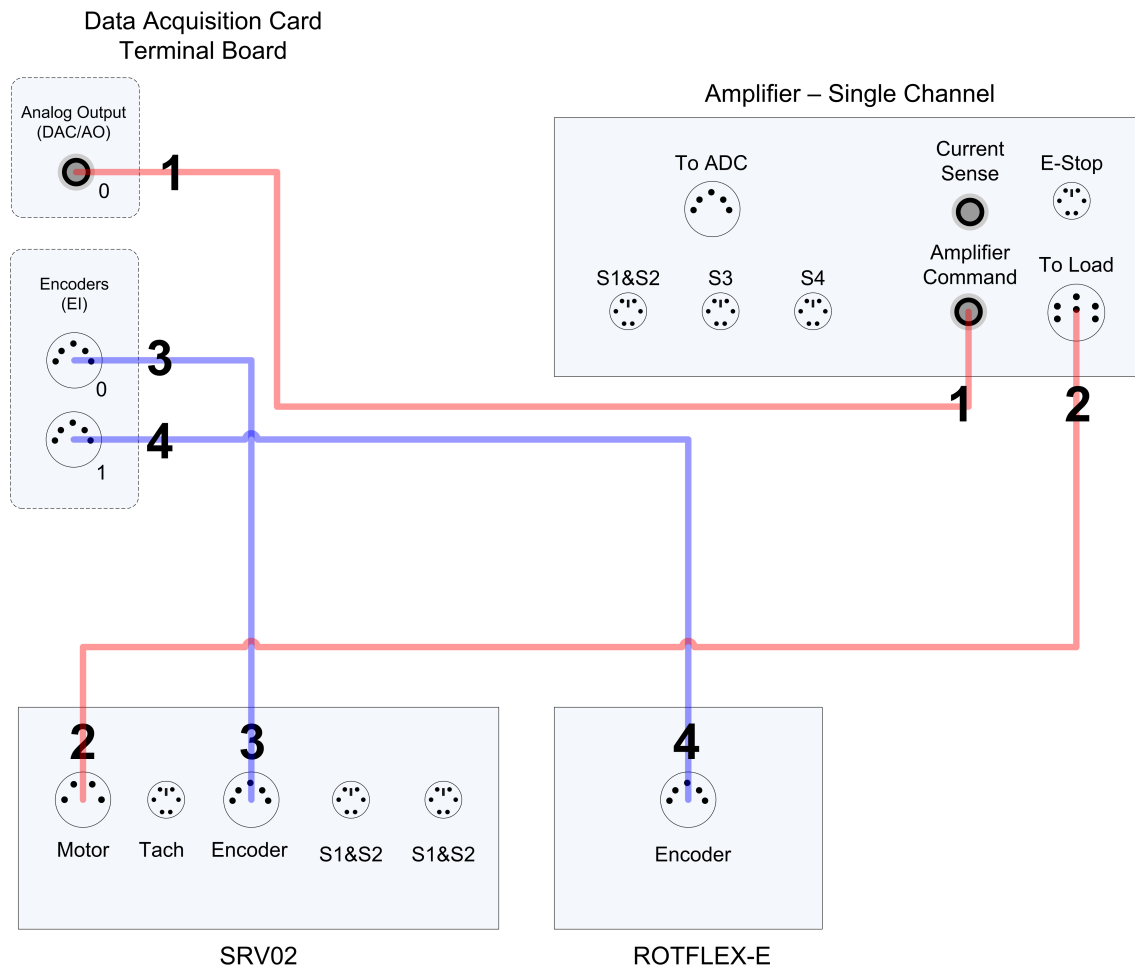

Figure 5.1: ROTFLEX system connections diagram
This section describes the typical connections used to connect the Quanser Rotary Flexible Joint system to a data acquisition device and a single-channel power amplifier. The connections are given in Table 5.2 and illustrated in Figure 5.1. The connection procedure details is given below as well.
3. Connect one of the connectors on the 2x RCA to 2x RCA cable from the *Analog Output Channel #0* on the terminal board to the *Amplifier Command* Connector on the Quanser amplifier. See cable #1 shown in Figure 5.1.
4. Connect the 4-pin-stereo-DIN to 6-pin-stereo-DIN from *To Load* connector on the amplifier to the *Motor* connector on the SRV02. See connection #2 shown in Figure 5.1. The cable transmits the amplified voltage that is applied to the SRV02 motor.
5. To use the encoder to measure the load gear angle connect the 5-pin-stereo-DIN to 5-pin-stereo-DIN cable from the *Encoder* connector on the SRV02 panel to *Encoder Input Channel #0* on the terminal board, as depicted by connection #3 in Figure 5.1. This carries the load shaft angle measurement by the encoder.
6. Connect the connector on the ROTFLEX directly to *Encoder Input Channel #1* on the terminal board, as depicted by connection #4 in Figure 5.1. It carries the arm angle measured by the encoder.